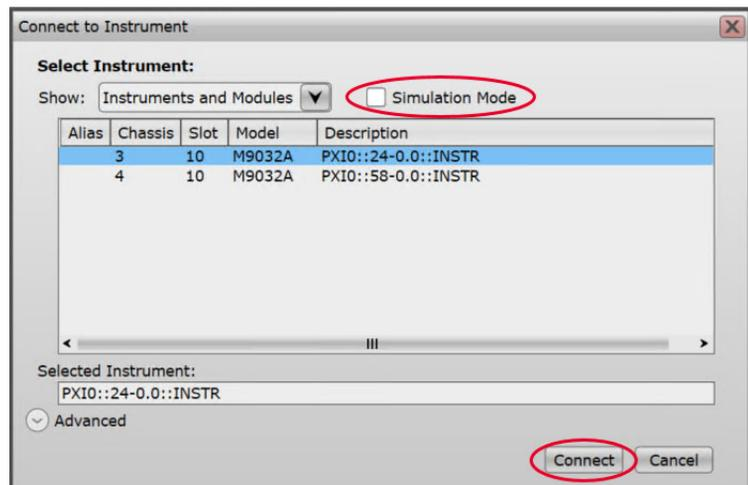

Figure 32 Connect to Instrument with "Simulation Mode" disabled
- 'Simulation mode' disabled—This is the active mode of SFP operation and is available when the **Simulation Mode** check box is clear. The **Simulate** button is replaced with the **Connect** button on the **Connect to Instrument** window, as shown in Figure 32. In this mode, only the active modules are displayed along with the respective chassis number, slot number and VISA address.